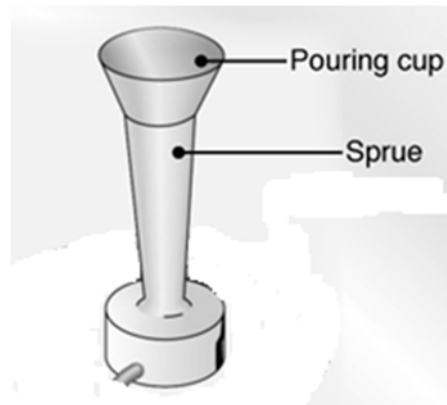

Figure Q1[c]
- [c] A mold sprue of length 20 cm and cross sectional area of 2.5 cm^2 at its base is shown in Figure Q1[c]. The sprue feeds a horizontal runner leading into a solid ceramic mold cavity with volume of 1380 cm^3 . Determine:**